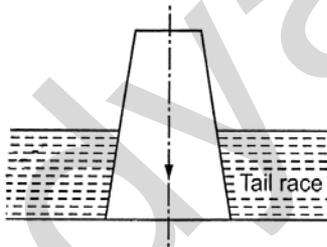

Fig. 1: Straight conical draft tube.
- It has circular cross-section throughout from inlet to outlet as shown in figure 1, which is turned through 90°. This type of draft tube is designed to turn the water from the vertical to the horizontal direction with a minimum depth of excavation and at the same time, having a high efficiency.